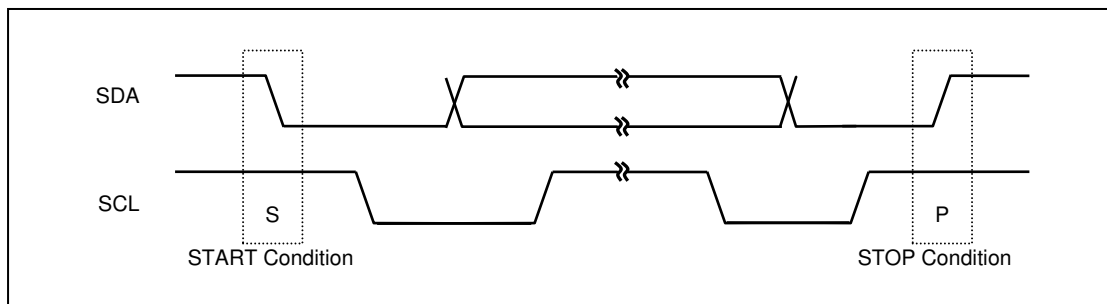

Figure 14.7 START and STOP Condition
Within the procedure of the I2C-bus, unique situations arise which are defined as START(S) and STOP(P) conditions; see Figure 14.7.